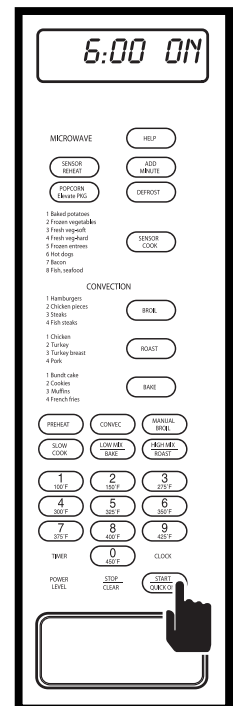

Figure 3-50.
6. Press QUICK ON/START key and start time will appear on display along with the word "ON" (See Figure 3-50). The microwave will now be energized at the time of day specified, for amount of time specified and at power level specified. At the end of the cooking time, "END" will flash on display and alarm will beep.